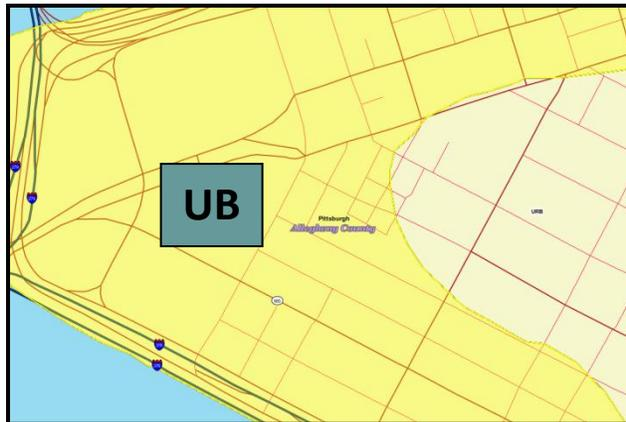

Figure 12 – Soil Map of Allegheny County, Pittsburgh
Since the existing building was constructed in the 1950s, a geotechnical report for the River Vue Apartments project is not available because it does not exist. Therefore, to determine the soil and subsurface water conditions, the soil type will be assumed for analysis. According to Pennsylvania State University’s soil map website, the soil located on the River Vue Apartments site is urban land (UB), shown in Figure 12. Some properties of the soil include very deep bedrock depths, seasonal water table of less than 60 inches, and no flooding potential (“Soil Map” et al.). One water condition is free water and it is water naturally added to soil by rain or the melting of snow.